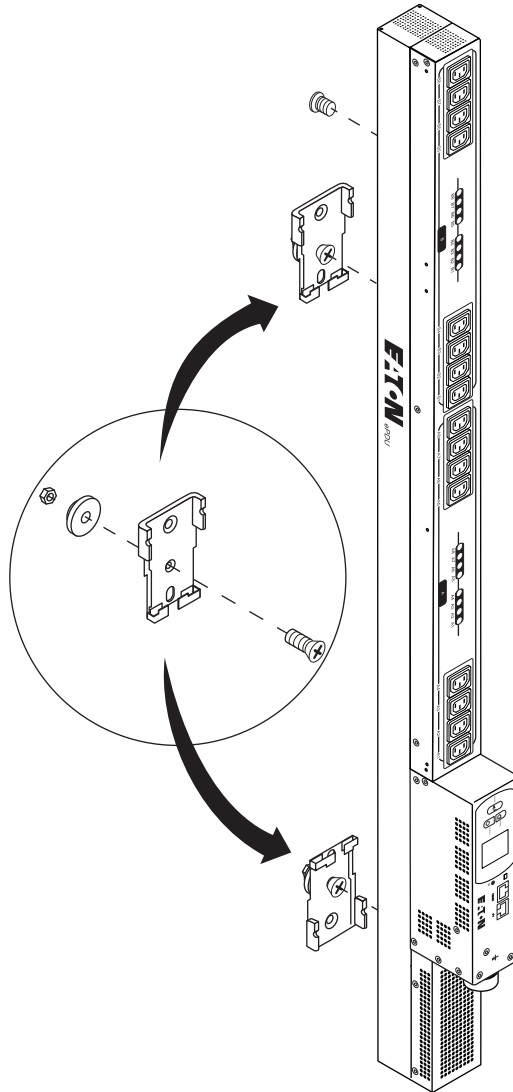

Figure 14. Attaching the Mounting Buttons to the Mounting Clip Feet
1. Locate the two mounting clip feet, mounting buttons, screws, and hex nuts (supplied). Using a Phillips screwdriver, assemble the mounting buttons and clip feet (see Figure 14).
4. Carefully move the ePDU into position against the rail, verifying that the anti-sliding safety screw is above the topmost mounting clip (see Figure 14 on page 18).